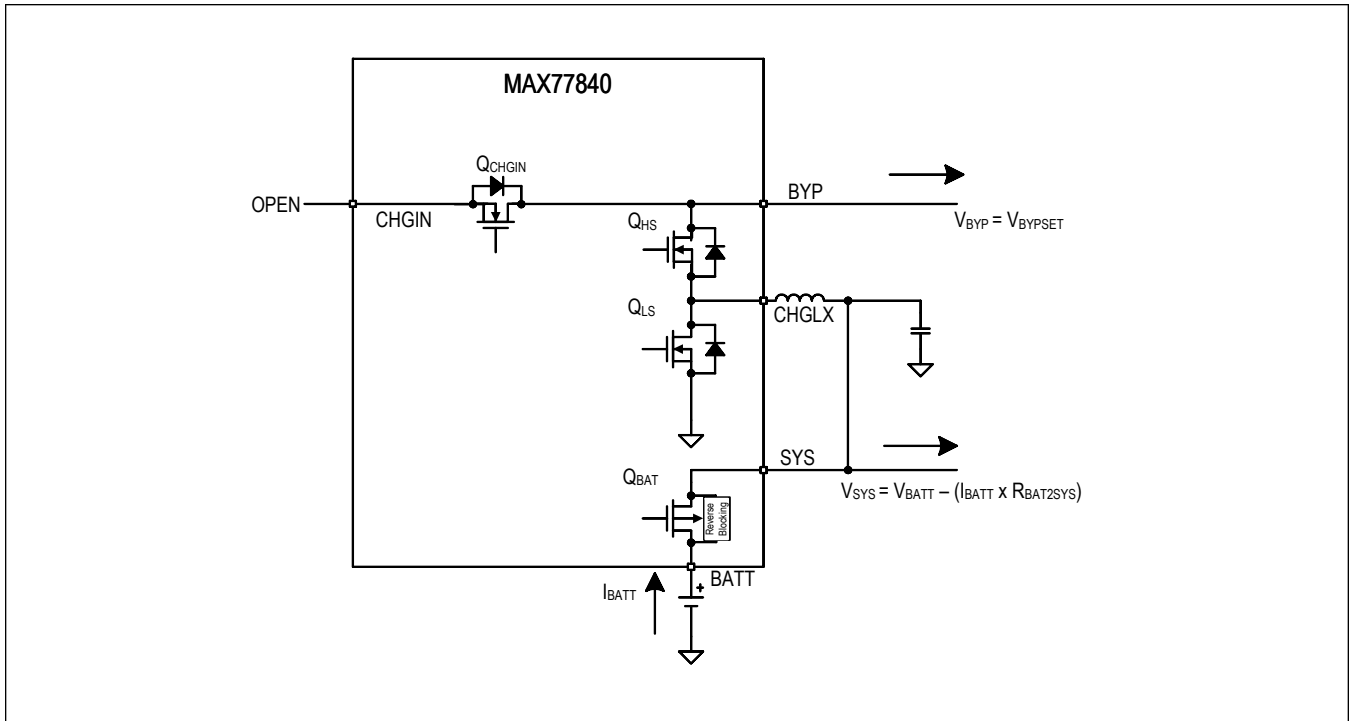

Figure 5. Battery-Boost
3. BATTERY-BOOST, *MODE = 0x08*: The adapter voltage is invalid, outside the input voltage operating range (Q_{CHGIN} = off). Battery is connected to power the SYS load (Q_{BAT} = on), and charger is operating in Boost mode (Boost = on), see Figure 5.